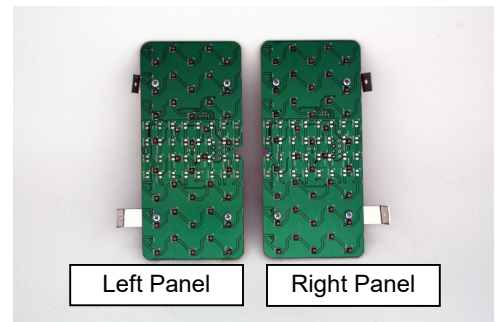

Figure 3
- 3.1. Place each panel into the respective housings. (See Figure 3) The panel will be at the correct depth when the mounting tabs on the outboard side of the housing has a 1/4 inch gap between the tab's upper edge and the housing's edge. With the panel held in place, mark the location of the mounting hole in each mounting tab with a marking pen. Drill 2 – 3/32" diameter mounting holes into each housing assembly at the marked locations. (See Figure 1)